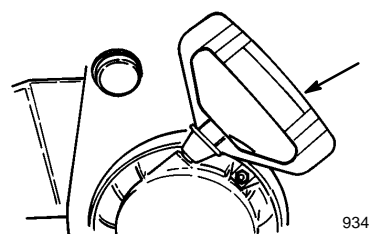

Figure 18
- **Recoil Starter** (Fig. 18)—Pull the recoil starter to start the engine.
6. Grasp the recoil starter handle (Fig. 18) and pull it out slowly until positive engagement results; then pull it vigorously to start the engine.